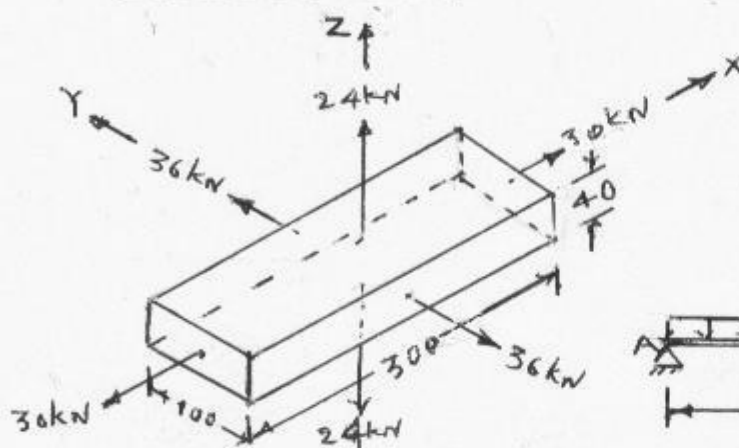

fig 8. Q. 4(a) 2nd Alt.
- (a) A Steel bar is subjected to tensions as shown in **fig. 8**. Determine change in volume of the bar, if $E_s = 200 \text{ GPa}$ and $\mu_s = 0.25$. 05